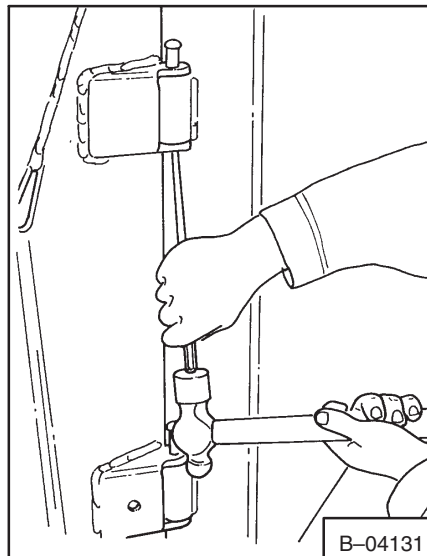

Fig. 5-45 Hinge Pins
3. Remove the hinge pins (Fig. 5-45).